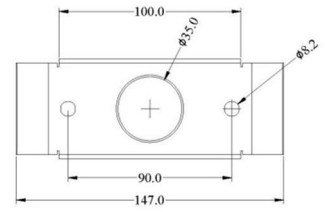

Figure 6
- ☞ Secure the wall mounting bracket to the structure by using two fasteners (not provided). (Figure 6)